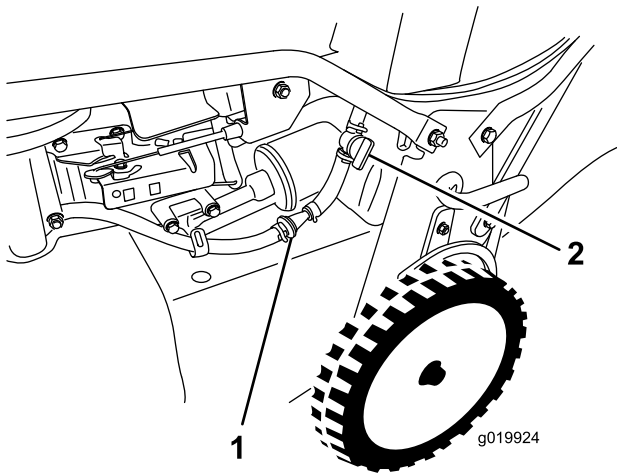

Figure 35
3. Close the fuel-shutoff valve (Figure 35).
4. Remove the fuel filter (Figure 35) from the fuel line by loosening the tube clamps surrounding the fuel filter.